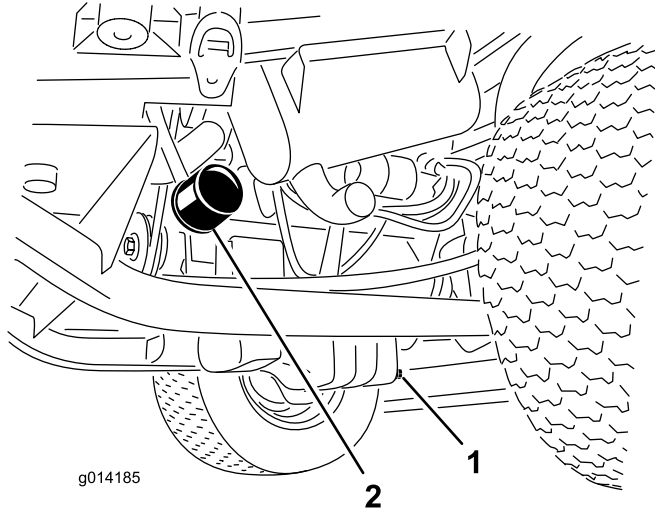

Figure 32
1. Remove the drain plug (Figure 32) and let the oil flow into a drain pan.
3. Remove the oil filter (Figure 32).